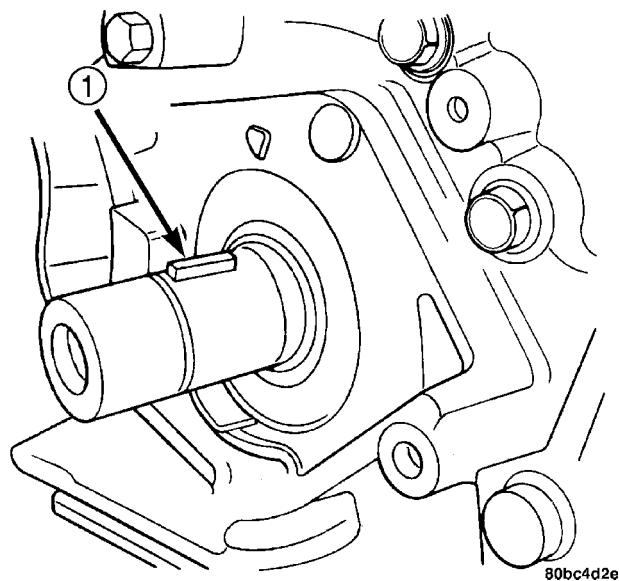

Fig. 95 Crankshaft Key
(6) Remove crankshaft key (Fig. 95).
(6) Install crankshaft key (Fig. 95).